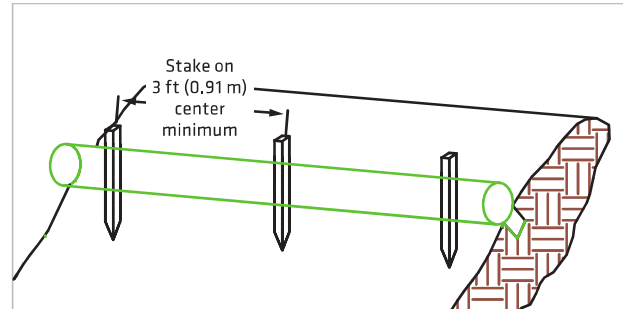
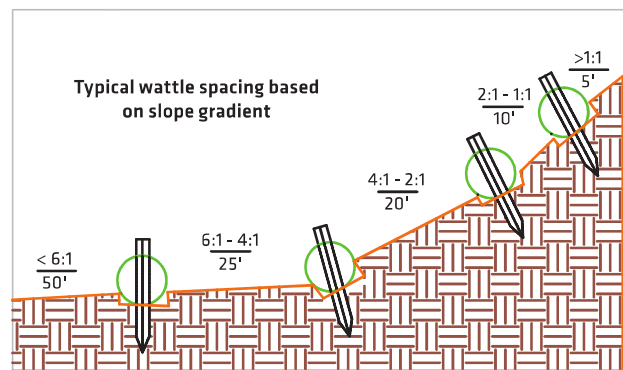

FIGURE 9
FIGURE 10
3. Secure the wattle with a minimum of 18 to 24 in. (45.7-61 cm) stakes every 3 to 4 ft (0.9 -1.2 m) and with a stake on each end. Stakes should be driven through the middle of the wattle leaving at least 2 to 3 in. (5-7.5 cm) of stake extending above the wattle (Figure 9). Stakes should be driven perpendicular to the slope face. Spacing of SediMax-SW on slope will vary based on the slope grade (Figure 10).